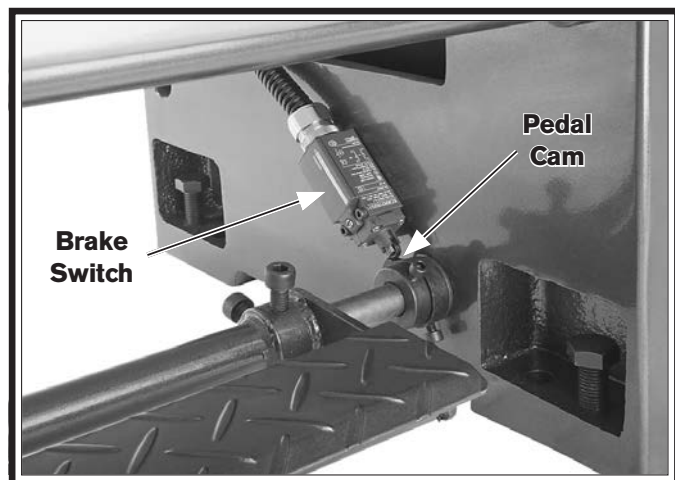

Figure 137. Brake switch and pedal cam.
9. Locate the brake switch on the right side of the brake pedal (see **Figure 137**).